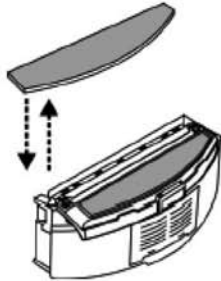
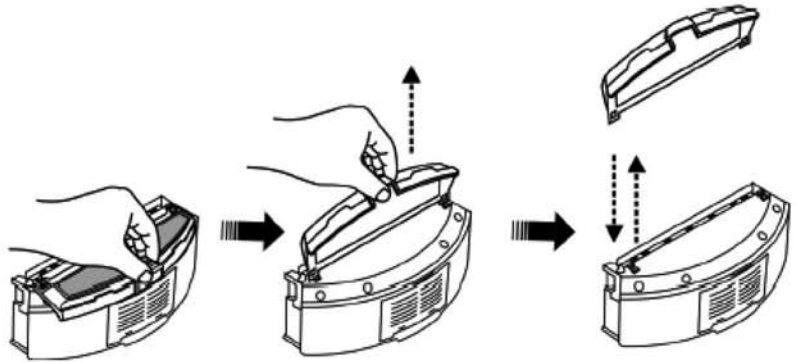

Figure 8
Figure 9
- 6) Reverse the dustbin, tear out the mop, release the trailing bar and then unplug the right and left fasteners on the bottom of the dustbin (Refer to Figure 8 and Figure 9). All parts should be assembled as before disassembly.